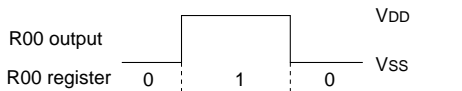

Fig. 4.3.5 Output waveform at DC output selection
- When the R00 register is set to "1", the R00 terminal output goes high (VDD), and goes low (VSS) when set to "0". Output waveform is shown in Figure 4.3.5.